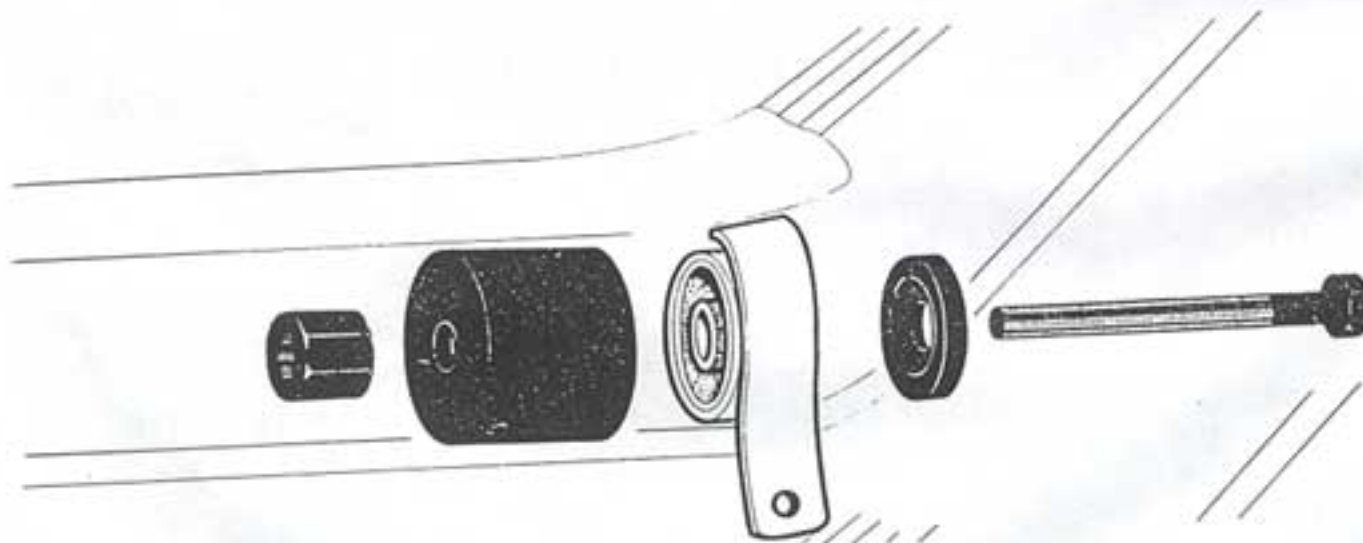
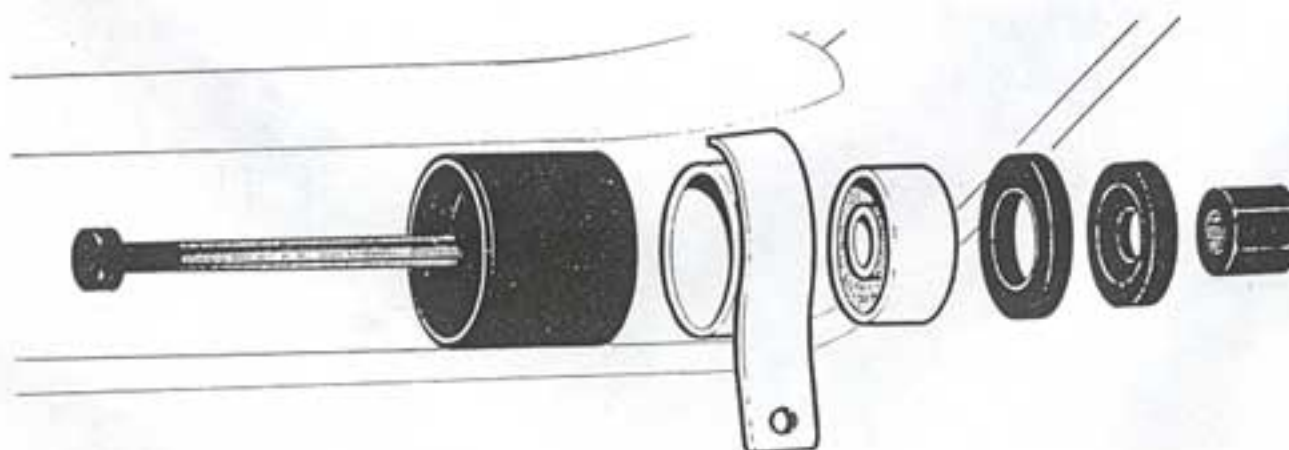

Fig. 1 - Location of parts for bushing removal
Fig. 2 - Location of parts for bushing installation
- For removing or fitting operations, the flexible bushes will be removed or fitted from front to rear of the machine (fig. 1 and fig. 2).